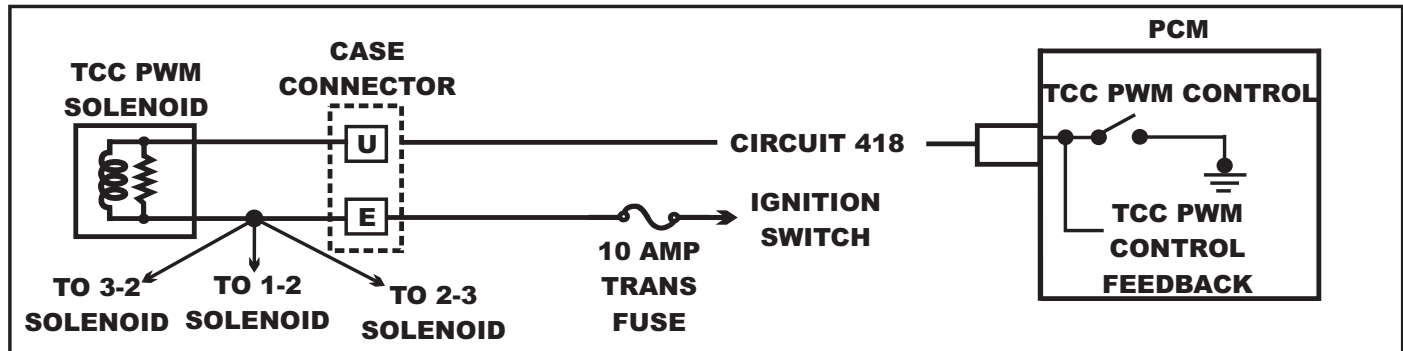

Figure 113
- The TCC PWM Solenoid is supplied “Key On” power through case connector terminal “E”. The PCM/VCM controls the solenoid through the ground side on Circuit 418 at case connector terminal “U”, Refer to Figure 113.
- There are times when the scan tool will indicate that the command to turn the solenoid on has been sent, when in reality it has not. Use a volt meter on Circuit 418 (Usually Brown) to insure that the voltage is being pulsed to ground during solenoid “ON” time, Refer to Figure 113.
- A faulty ignition switch, causing intermittent power loss to case connector terminal "E". (Other solenoid codes should be stored). Refer to Figure 113.
- It would be best to snip the Circuit 418 wire (See Figure 113) about 3 inches away from the computer and the transmission and replace it in order to save time.